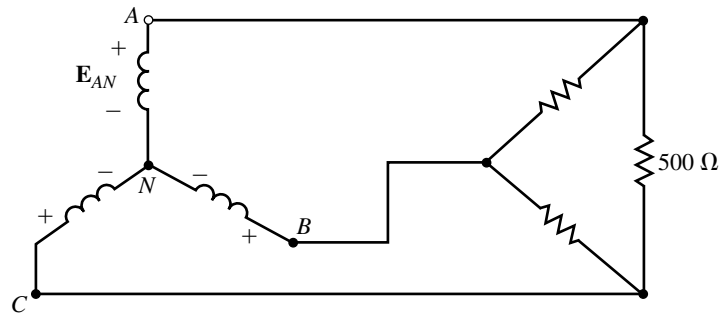

FIGURE 23-51
33. Repeat Problem 32 for the balanced load of Figure 23-51, given $E_{AN} = 120\text{ V}$.